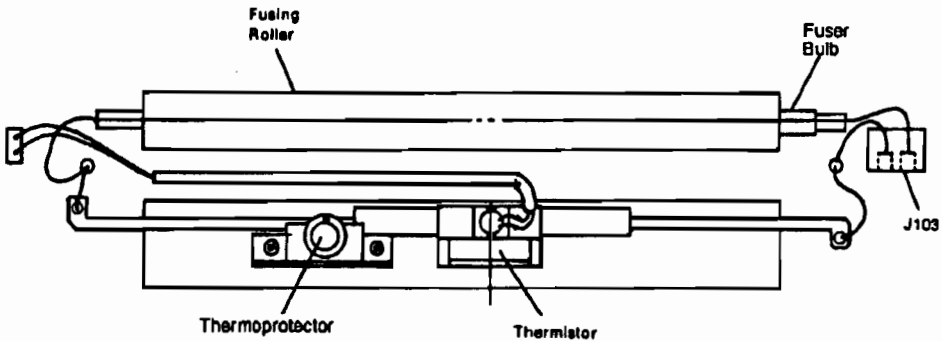

Figure 7-29. Thermoprotector/Fuser Bulb Check
2. Using an ohm meter, check for continuity at the two pin connector (J103) at the right side of the Fusing Assembly (see Figure 7-29).